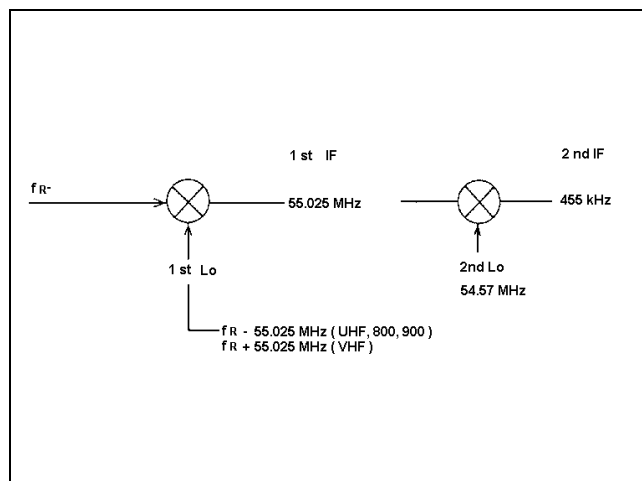
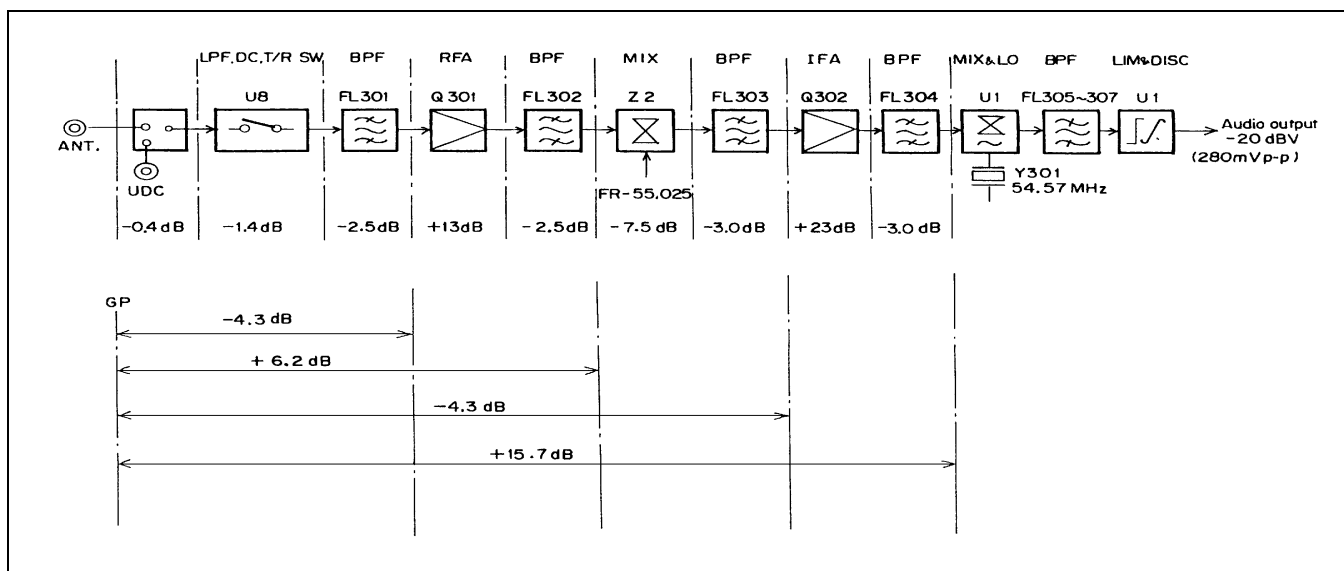

Figure 7 - Frequency Relationship Diagram
Figure 8 - Typical Level Diagram
- a. Level Diagram: A Frequency Relationship Diagram is shown in Figure 7 and a Typical Level Diagram is shown in Figure 8.
- (1) C318 is provided for the adjustment of the second local oscillator.
- (2) When the desired channel frequency with standard modulation is applied to the antenna terminal, adjust C323 for maximum output at RX Audio.
- a. Check the Local Oscillator Frequency. Check the frequency after connecting a frequency counter through a 1 PF capacitor to the collector of Q103. The frequency relation at various stages is shown In Figure 8. If a frequency error is 5 PPM or more in the temperature range of 20° to 25°C, adjust the frequency of VCTCXO (Z1). The frequency of VCTCXO is 13.2 MHz.